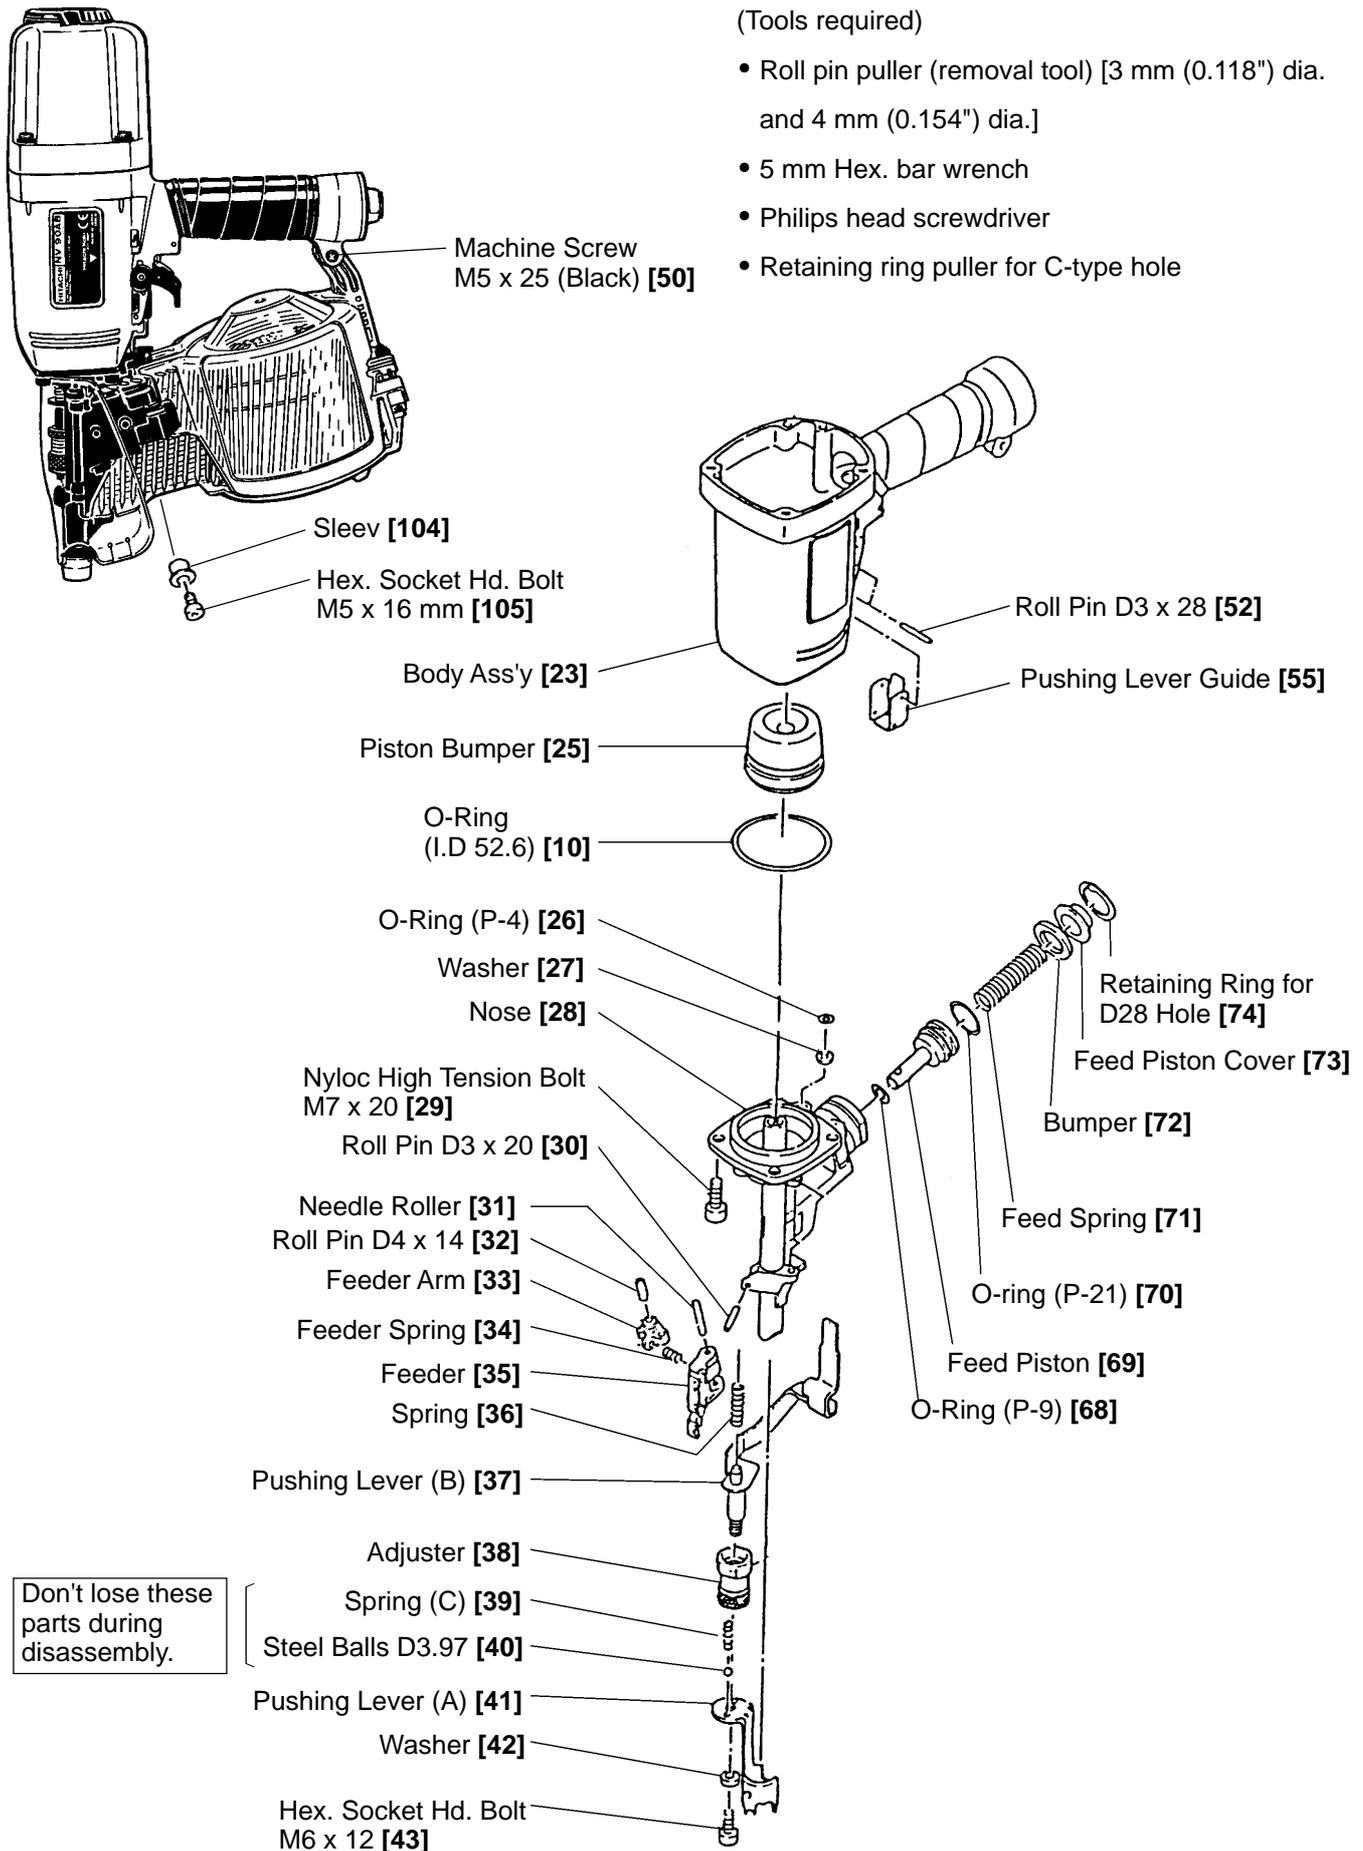

Fig. 11 Disassembly and reassembly of the driving section
(1) Disassembly and reassembly of Pushing Levers (A) [41] and (B) [37], the Spring [36], etc. (See Fig. 11)
- Install Spring (C) [39] after applying grease to it.
(2) Disassembly and reassembly of the Feeder [35], the Feed Piston [69], the Nose [28], etc. (See Fig. 11)